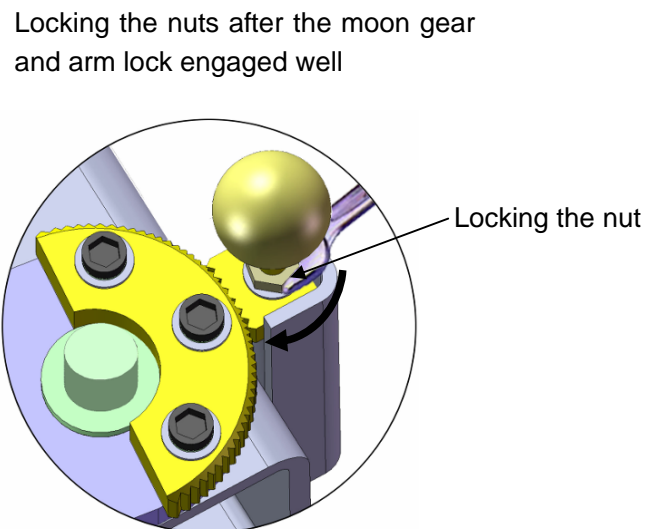

Fig. 31
4. Adjust the moon gear and arm lock to make it to be meshed, then tighten the nut of arm lock (See Fig. 31).